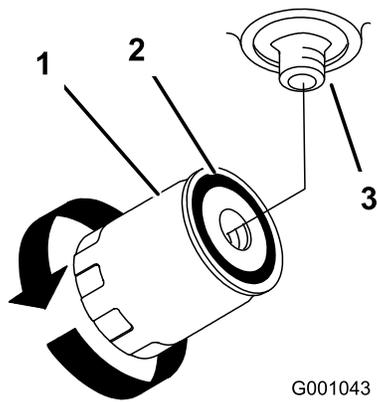

Figure 75
4. Remove the old filter and wipe the filter adapter gasket surface clean (Figure 75).
6. Install replacement hydraulic filter onto the filter adapter. Turn the oil filter clockwise until the rubber gasket contacts the filter adapter, then tighten the filter an additional 1/2 turn (Figure 75).